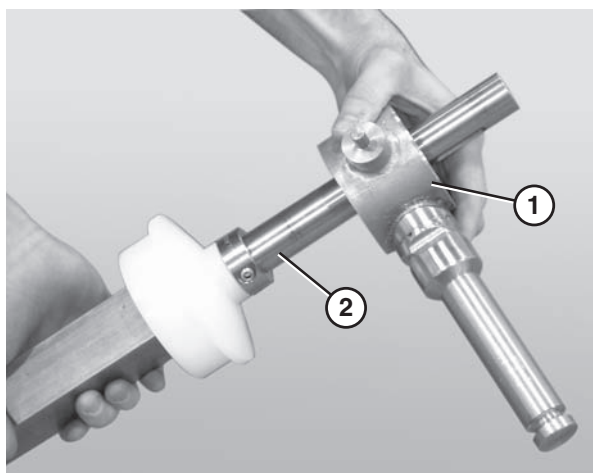

Figure 80
- Slide the second bearing shaft assembly, or the motor mount bracket (**Figure 80, item 1**), onto the longer end of the drive spindle (**Figure 80, item 2**).